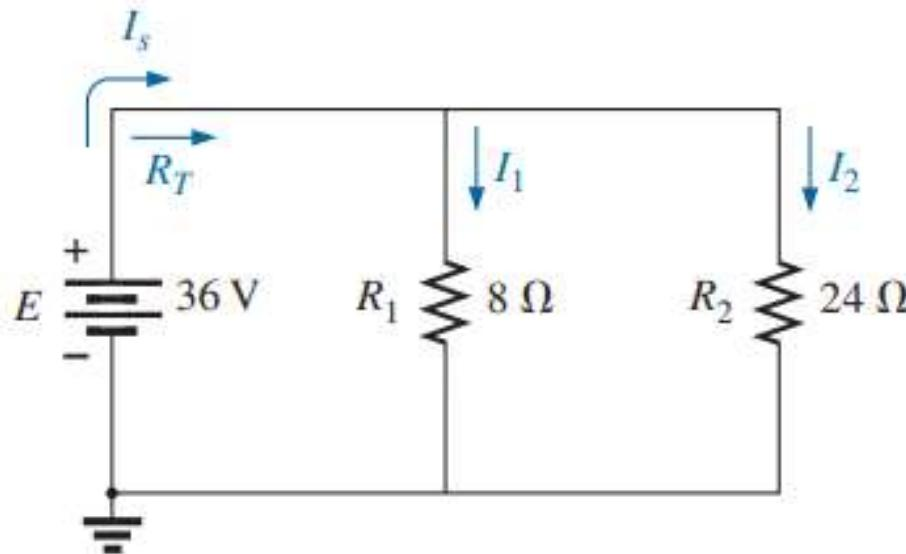

FIG. 6.72
12. For the parallel network in Fig. 6.72: